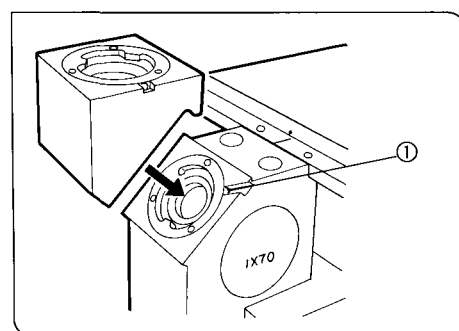
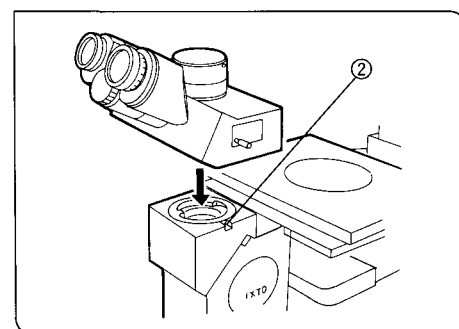

Fig. 39
Fig. 40
(Figs. 39, 40)
1. Using the Allen screwdriver, loosen the observation tube clamping screw ① on the observation tube mount. (Fig. 39)
2. Insert the circular dovetail mount of the intermediate tube into the observation tube mount, placing the intermediate tube so that its upper surface is flush with the microscope frame. Clamp the intermediate tube by tightening the clamping screw ①.
3. Using the Allen screwdriver, loosen the observation tube clamping screw ② on the intermediate tube's observation tube mount. (Fig. 40)
4. Insert the circular dovetail mount of the observation tube into the opening on the intermediate tube, placing the observation tube to point the binocular eyepieces towards the front. Clamp the observation tube by tightening the observation tube clamping screw ②.